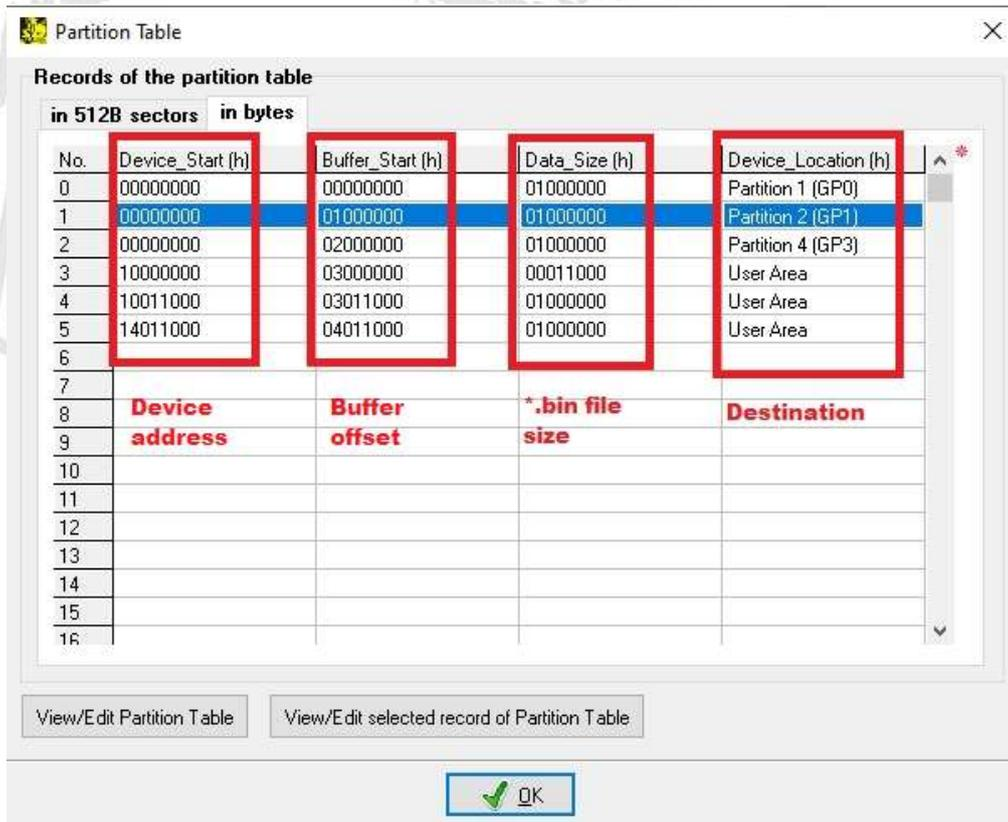

Figure 14. Example of partition table
8. Define partition table.(see figure 14)